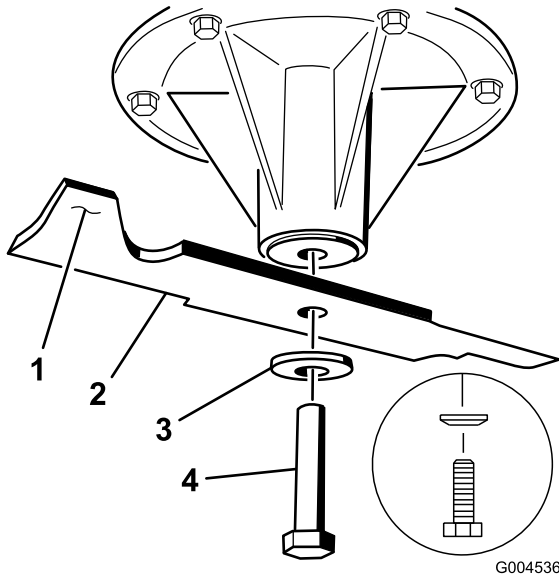

Figure 87
2. Remove the blade bolt, the curved washer, and the blade from the spindle shaft (Figure 87).
3. If the blade is not balanced, file some metal off the end of the sail area only (Figure 87).